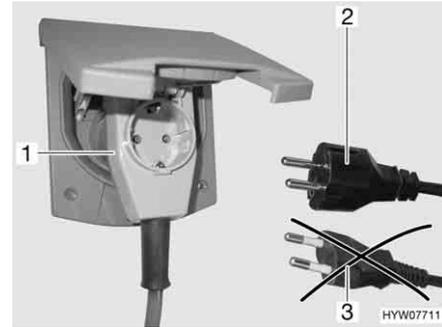

Fig. 111 Connecting an angled connector with socket
- ▶ When using a CEE 17 angled connector with rear socket (Fig. 111,1) only use a rubberised and sealed IP 44 socket with earth contact (Fig. 111,2). Do not use sockets without earth contact (Fig. 111,3).